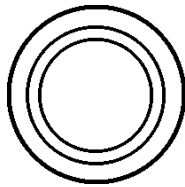

Figure 34. Main Circuit Breaker OFF Switch
1. Press the main circuit breaker "OFF" switch (Figure 34).